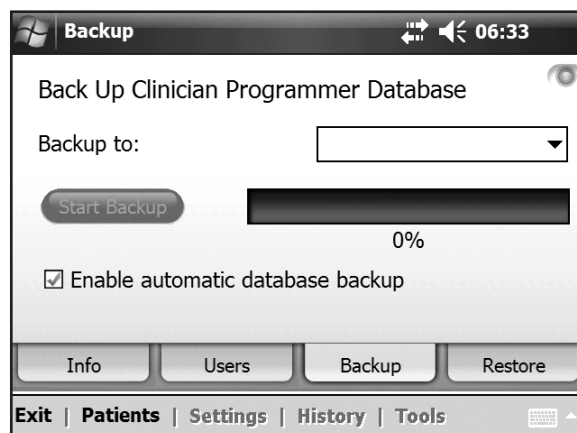

Figure 7-43: Backup window.
2. Uncheck the box next to “Enable automatic database backup.” See Figure 7-43.